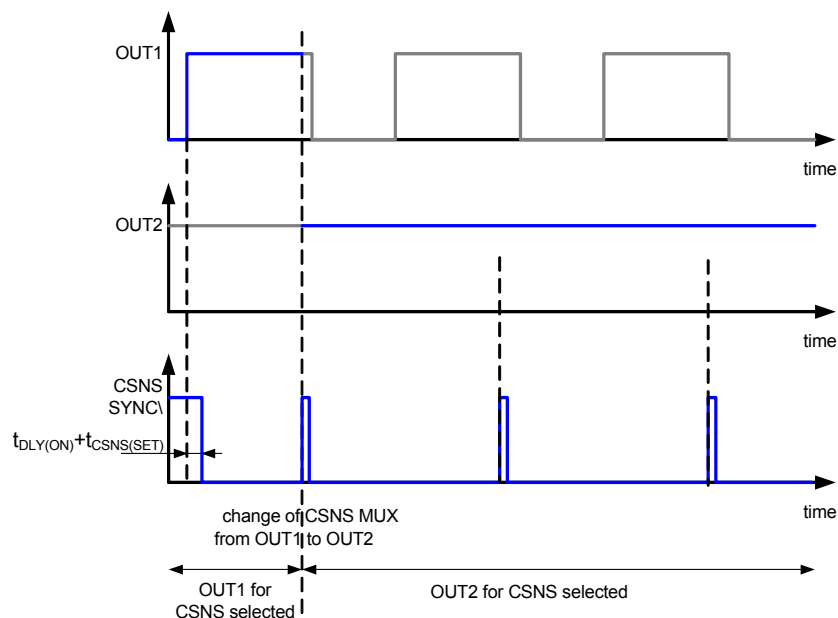

Figure 34. CSNS SYNCB when the output is programmed with 100 %
- when the output is programmed with 100 % PWM, the CSNS SYNCB delivers a logic[0] a high pulse with the length of 100 μ s (typ.) during the PWM counter overflow for TRIG0 and TRIG1/2 settings, as shown in Figure 34